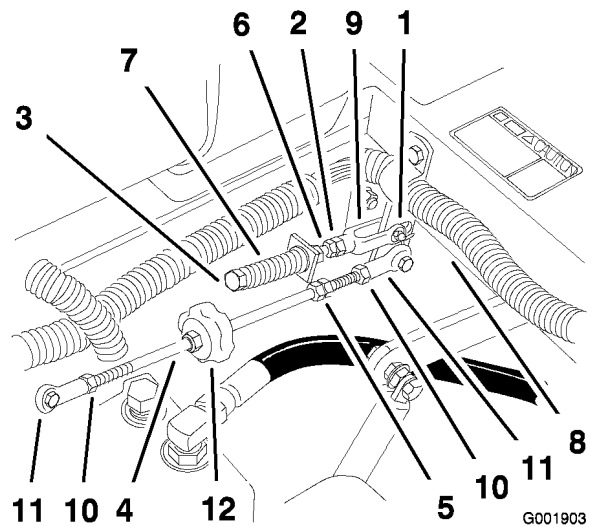

Figure 70
8. If adjustment is needed, loosen the nut and jam nut against the yoke (Figure 70).
9. Apply slight rearward pressure on the motion control lever, turn the head of the adjustment bolt in the appropriate direction until the control lever is centered in the neutral lock position (Figure 70).
10. Tighten the nut and jam nut (Figure 70).